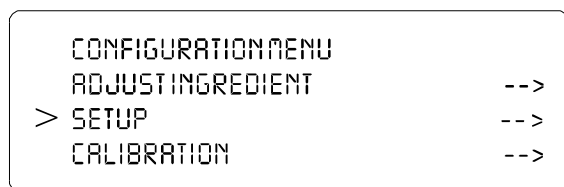

FIG. 27: CONFIGURATION MENU/SELECTION SETUP
- Step 2. At the front panel push the Setup button. The Configuration Menu appears. (See Fig. 27)
- Step 3. Push the up or down arrows until the cursor is next to “SETUP”. (See Fig. 27)